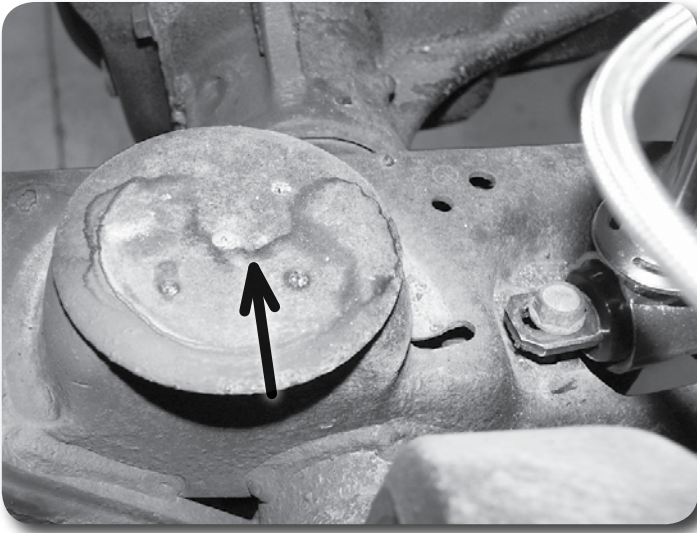

Figure 6
15. Locate the center of the coil mount on the axle and drill a 5/16" hole **Figure 6**. Using the provided 3/8" x 1" self-tapping bolt, tap the hole and remove the bolt. A lower bump stop extension will be installed here when the coil spring is installed.